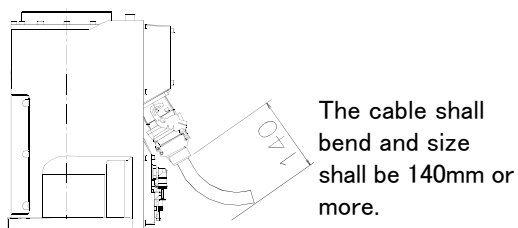

Fig.2-57 : Fixing the flexible cable
- (1) Connect the connector to the robot arm.
- (2) Wind the silicon rubber around the cable at a position 300 to 400 mm from the side of robot arm and extension section as shown in Fig. 2-57, and fix with the nylon clamp to protect the cable from external stress.